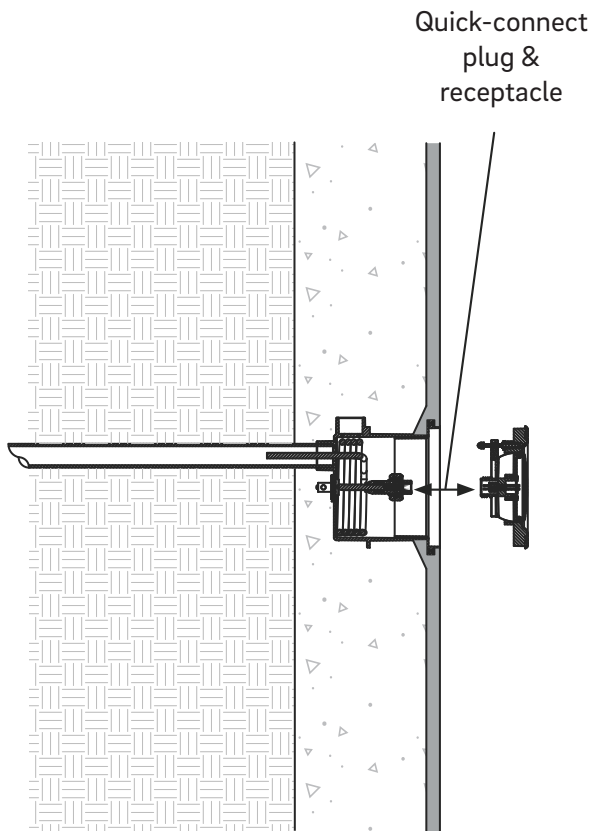

Figure 7
1. Before connecting the quick-connect plug to the back of the LED light, ensure that there are two O-rings located inside the plug, that they are properly lubricated and in good condition. Now fasten the quick-connect cord to the back of the light by screwing down the locking nut clockwise until the connection is fully secured. When the light is removed from the niche, the excess cable should be long enough to allow the QuikBrite to rest on the deck of the pool. When installed, the excess cable should be wound up and placed inside the niche behind the installed LED light (Figure 7).